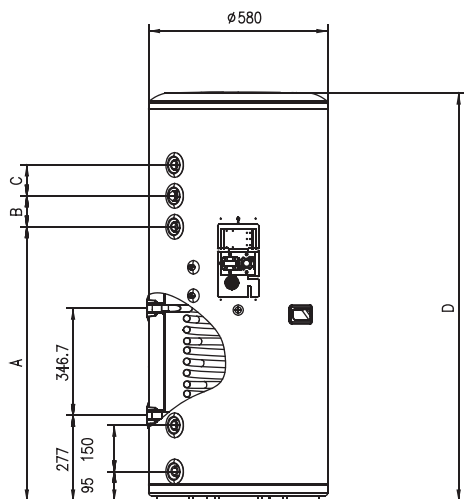
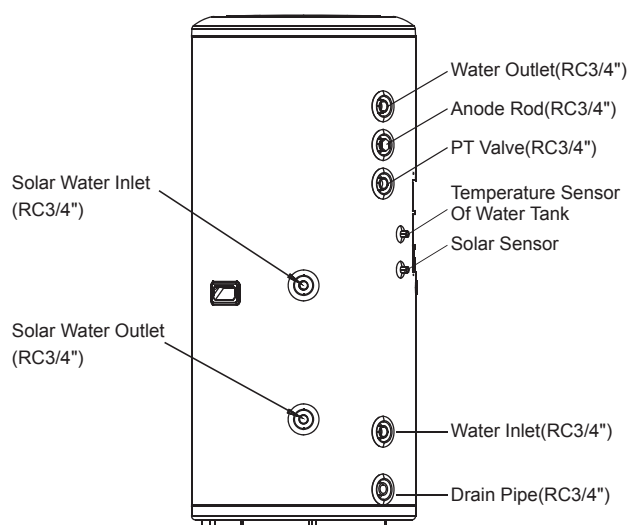

Fig.5-1
Fig.5-2
- Outline dimensional drawing(see Fig.5-1, Fig.5-2)